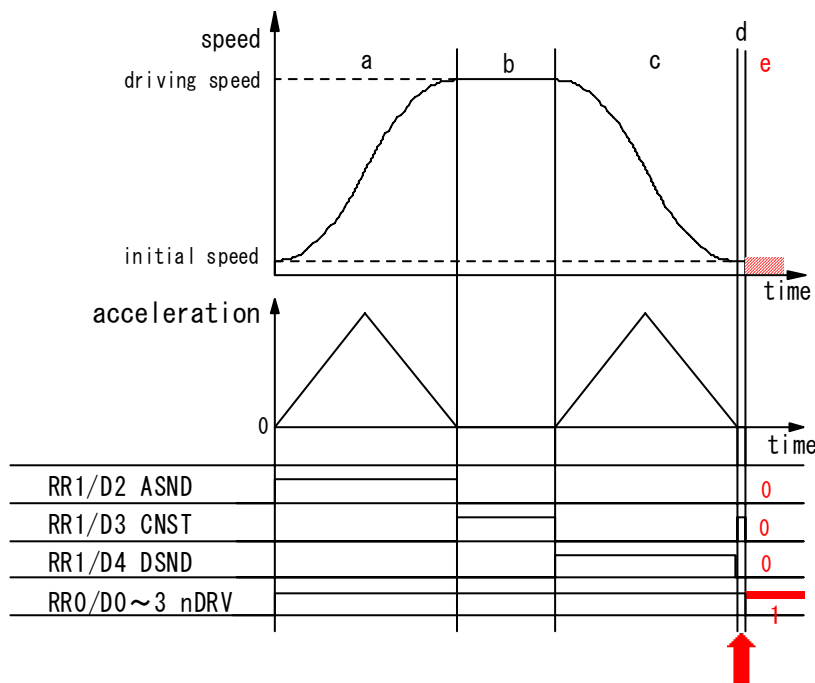

Figure 3. Status of deceleration shown by RR1 register
Deceleration status of accelerating(ASND), constant speed driving(CNST) and decelerating(DSND) can be read out according to RR1 register of IC. The status is shown as Figure 3. as below ;
The timing when the trouble may possibly happen is shown as “d” on Figure 3. At this time, status of deceleration is constant speed driving(CNST=1). Besides in case the trouble such as outputting pulse continuously happens, all of ASND, CNST and DSND will become 0 even though it's driving(RR0/nDRV=1).
trouble happens is in “d” as shown on Figure 3 if deceleration stop command is executed. In “d” DSND status bit is 0 and CNST status bit is 1. Therefore the following two(2) solutions will be proposed.
(1) When interruption from IC can be used
Terms when deceleration stop command should be executed in accelerating and constant speed driving such as “a” and “b” on Figure 3. Status of deceleration for both “d” (timing when the trouble happens) and “b” (constant speed driving) is same as constant speed driving as shown on Figure 3. But there is difference of driving speed between two. Driving speed in “b” is near that of setting driving speed. Driving speed in “d” is near that of initial speed. Therefore before driving starts, prepare judgmental speed which is middle one between initial speed and setting speed ((Driving speed - initial speed)/2 + initial speed). When execute deceleration stop command during driving, make sure status is accelerating(ASND=1) or constant speed driving(CNST=1) and driving speed is same or faster than judgmental speed.
Constant speed area (“b” area) on Figure 3 is set as occurrence factor of interruption. But this interruption is also happened when there is “d” area just before driving stops on Figure 3 such as when driving speed reaches initial speed or when acceleration becomes 0(zero). There should occur “d” area definitely if the trouble is happened just before driving stops, driving speed hasn't reached initial speed yet, acceleration becomes 0 and decelerating stop requirement is executed. The measure is to judge if the trouble happens or not in the timing of interruption when “d” area ends.
- ① Check if driving goes out constant speed area or not. If RR3/D5(C-END) bit of driving axis is 0, there are other interruption factors. Execute those interruption processing.
- ② Check if driving goes into decelerating area or not. If it's RR1/D4(DSND)=1, make it finished as it goes because driving goes into "c" area from "b" area on Figure 3. If it's RR1/D4(DSND)=0, move it to ③ processing because driving has gone out "d" area.
- ③ Check if driving has finished or not. If it's finished, make it finished as it goes because driving has finished normally. But if it's not finished yet, surely trouble have happened because status is shown as it's still driving even though driving has gone out "d" area.
- ④ Check if hard limit is ON or OFF. Since RR1/D12 bit becomes 1 if + limit is ON and RR1/D13 bit becomes 1 if - limit is ON, if it's D12=1 or D13=1, judge forward limit is ON.
- ⑤ If trouble has happened, it becomes ASND=CNST=DSND=0. Check them all.
- ⑥ Execute sudden stop command(27h).
(2) When interruption can't be used
In “d” area on Figure 3, if forward limit is active, the trouble will happen, more exactly saying, it will seldom happen. There isn't any method to avoid it before it happens. So immediately after the trouble happens, take means to stop driving. If the trouble happens (“e” area on Figure 3), status keeps driving(RR0/nDRV=1), status of acceleration/deceleration is 0 in ASND, CNST, DSND. This is completely abnormal state. So the example of measure is shown as follows;